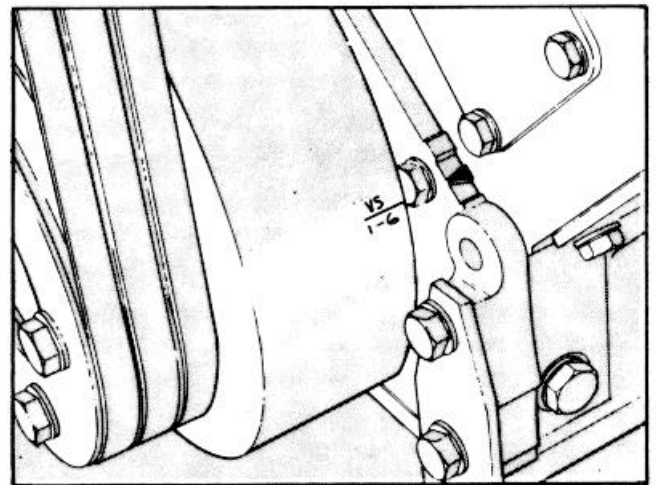
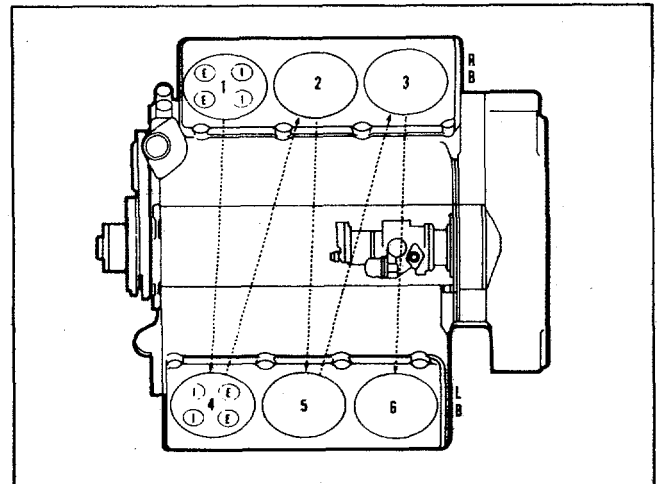
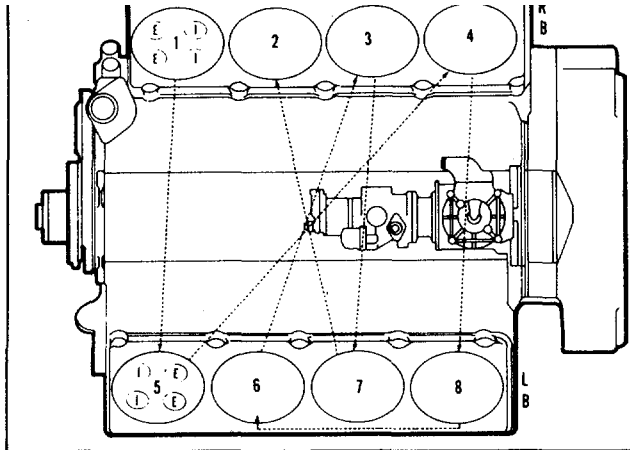

Fig. 2-28, (OM1035L). Valve set marks - V/VT-555 C.I.D. Engine
Fig. 2-29, (V11461). V6 firing order
Fig 2-30, (V11462). V8 firing order
1. Turn the crankshaft in direction of rotation until No. 1 "VS" mark appears on the vibration damper or crankshaft pulley. See Fig. 2-28 for the location of the valve set marks. In this position, both intake and exhaust valves must be closed for cylinder No. 1; if not, advance the crankshaft one revolution. See Fig. 2-29, Fig. 2-30 and Table 2-5 for firing order.